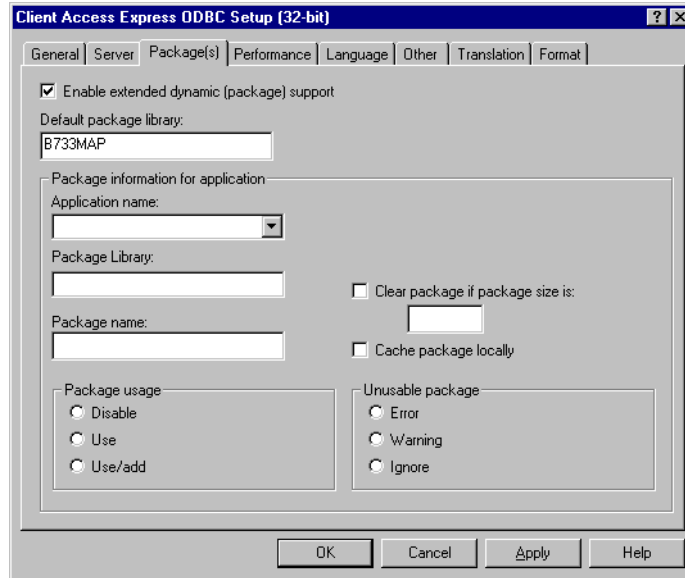

Figure 68. Client Access Express ODBC Setup (32-bit) (Part 3 of 6)
8. Type B733MAP for Default package library as shown in Figure 68.
9. Type `SYSB733` for Default package library. Otherwise, the information should appear the same as shown in Figure 68 on page 199.
27. Type `OLB733` for Default package library. Otherwise, the information should appear the same as shown in Figure 68 on page 199.
45. Type `DDB733` for Default package library. Otherwise, the information should appear the same as shown in Figure 68 on page 199.